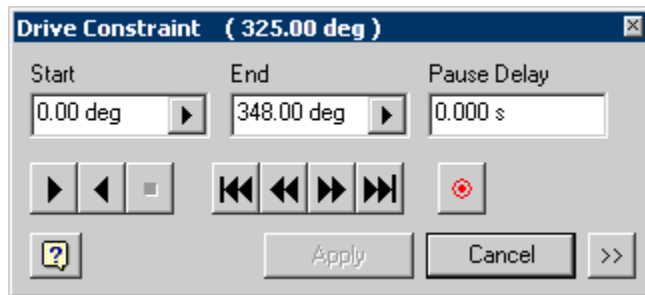
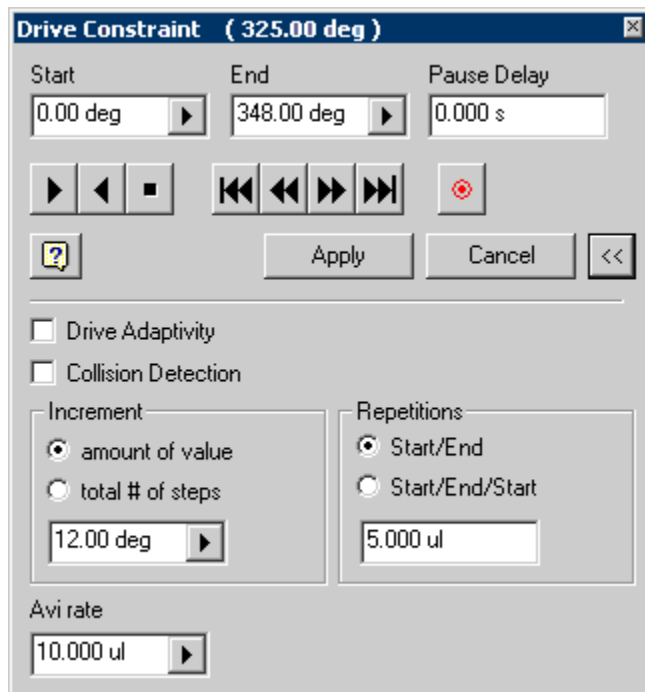

Figure 3a: The Drive Constraint dialog box.
Figure 3b: The expanded Drive Constraint dialog box.
5. When the Drive Constraint dialog box appears (see Figure 3a), click the double-chevron button in the lower-right corner to fully display the dialog box  (see Figure 3b).
7. Click the double-chevron button  again to return to the Drive Constraint dialog box of Figure 3a.
3. When the Drive Constraint dialog box appears (see Figure 3a), click the double-chevron button in the lower-right corner to fully display the dialog box (see Figure 3b).